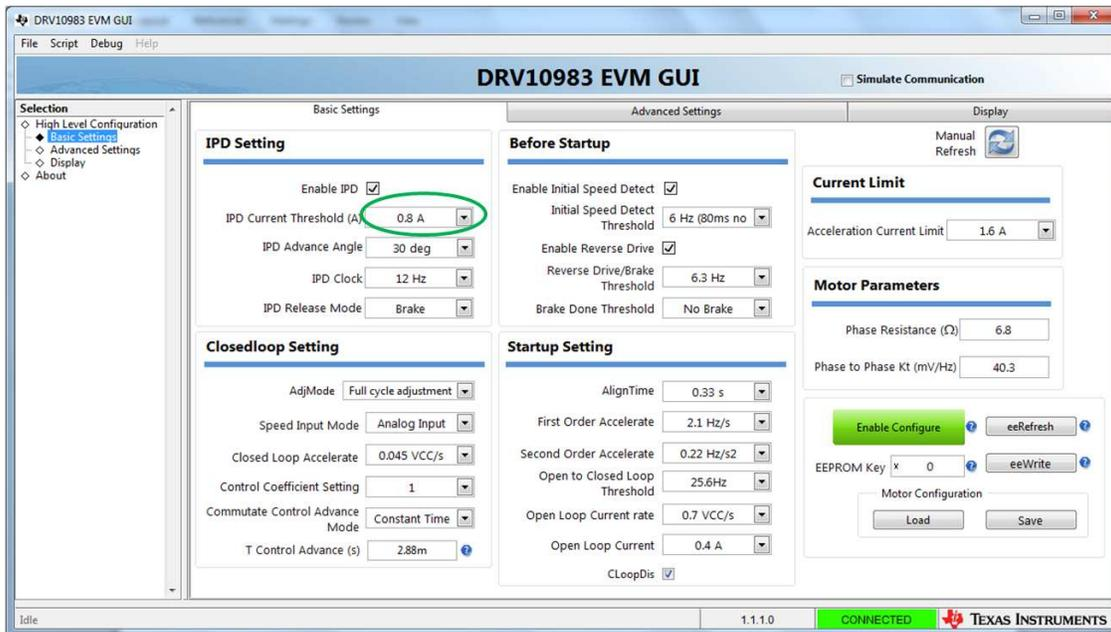

Figure 29. DRV10983x/75 EVM GUI Screenshot
- Unlock motor and turn ON motor commutation. When motor was going through IPD process during initial startup, visually there was little vibration, so IPD current threshold is reduce to 0.8 A (see Figure 29).